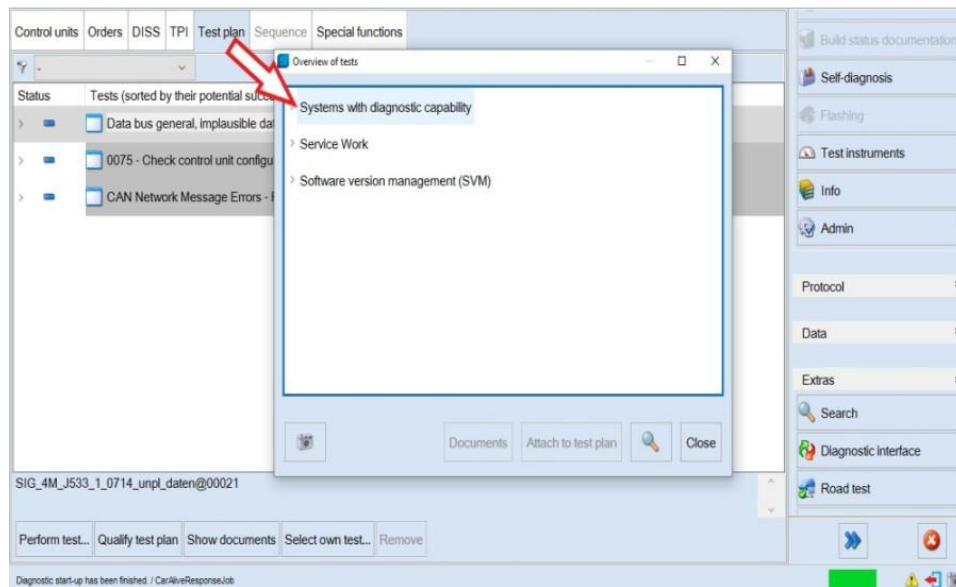

Figure 1
2) Once GFF is complete - Select Test plan > Systems with diagnostic capability (Figure 1)